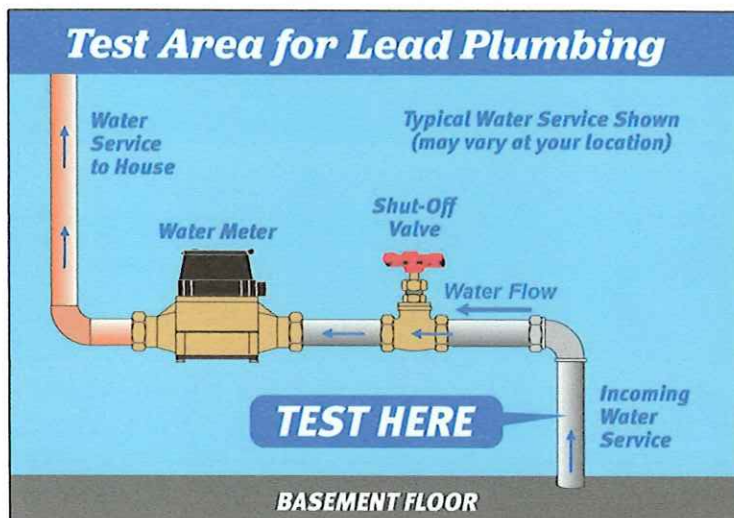

Figure 1: Testing location for Water Service Lines
1. Find the water service line entering the building. If you have a basement, the water service line will typically enter the building through the basement floor or the basement side wall. If you don't have a basement, the service line should enter the building through the floor on the main level. You will see a shut-off valve and water meter installed on this pipe. The testing location on the pipe will be between the entry point into the building and the shut-off valve, as shown in Figure 1.